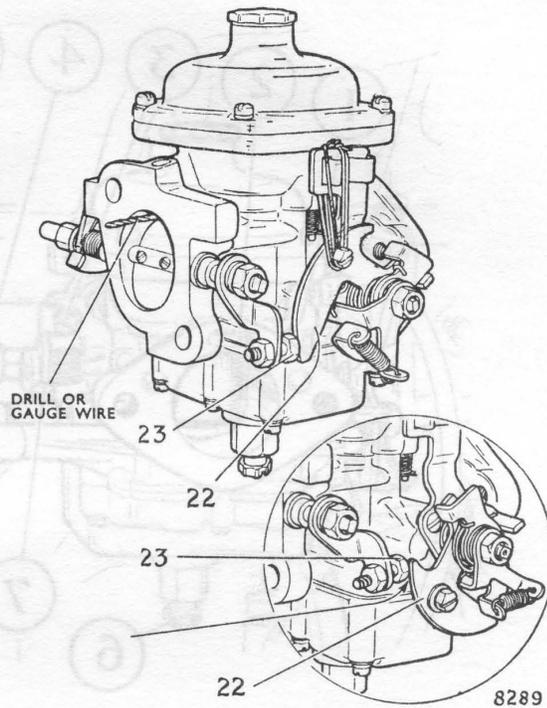

Fig. 10. Setting throttle gap for cold starting
**Choke control** — See Fig. 10
See Fig. 10 inset
3. With the choke control in this position, adjust the bolt (23) so that there is a clearance of 0.2-0.3 ins. (.5-7 mm.) between the bolt head and cam (22) when the bolt lock nut is tightened.
**Method 2 With front carburettor removed from engine — See Fig. 10**
2. Tie the fast idle cam in the position shown in Fig. 10 and adjust the bolt head (23) to just contact the cam (22) and then tighten the bolt locknut.